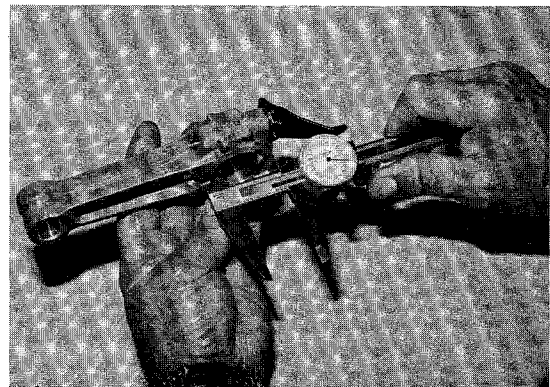

Figure 6-35
- Measure crank pin to connecting rod clearance. If clearance exceeds .004 in., replace connecting rod (**Figure 6-35**).